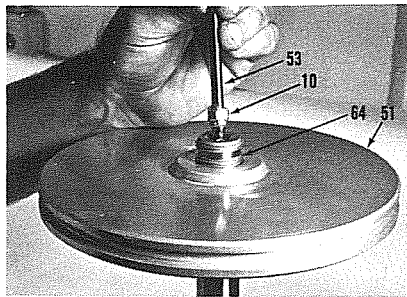
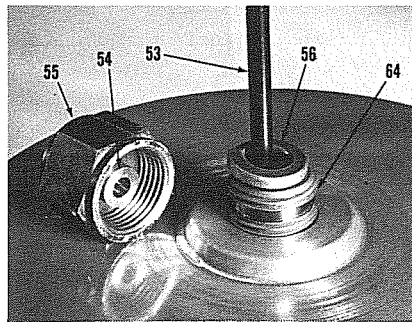
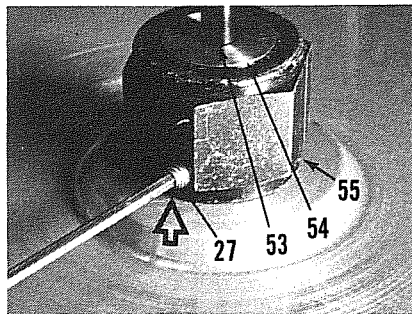

Figure 7-9, Inserting shifting rod into piston rod.
Figure 7-10, Tubing nut ready for assembly.
Figure 7-11, Screwing set screw into tubing nut.
7.2.3 Lubricate nut end of shifting rod (53) with petrolatum. Insert shifting rod end with lock nut into the deep hole end of piston rod (64). See Figure 7-9. Apply Loctite® to threads of tubing nut (55). Assemble lock washer (56), shifting rod guide (54) and tubing nut (55) on shifting rod (53). See Figure 7-10. Tighten tubing nut securely on piston rod (64). Coat set screw (27) with Loctite® and screw into tubing nut (55). See Figure 7-11.